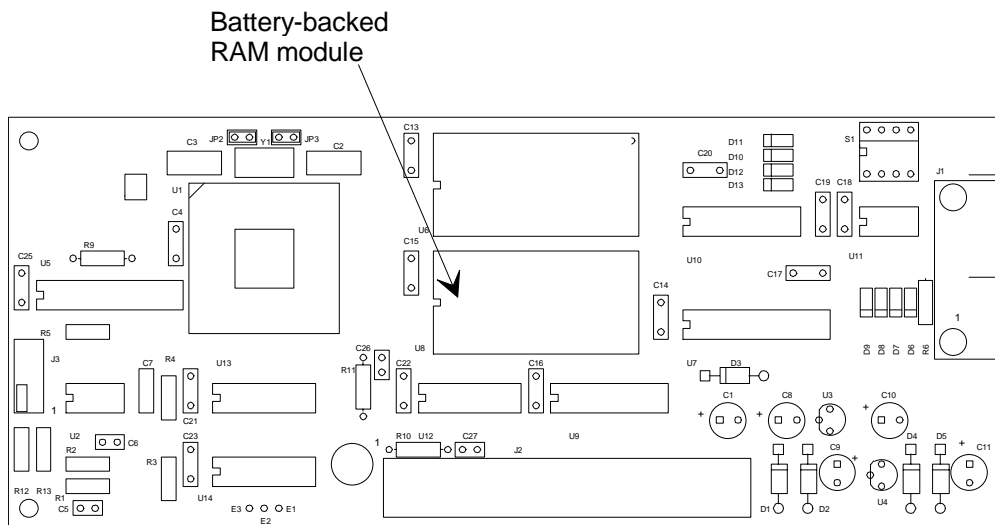

Figure 8: Location of the Battery-backed RAM Module
5. Figure 8 provides the location of the battery-backed memory module on the CPU board.